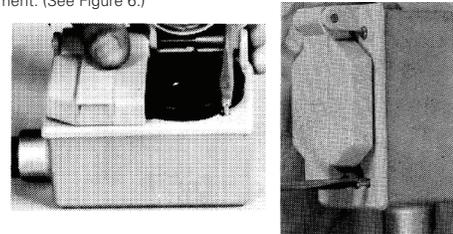

Figure 6
8. The screws in each corner of the cover are to be evenly and securely tightened to twelve (12) inch-pounds torque. This will ensure a wet locations seal and the proper grounding of equipment. (See Figure 6.)